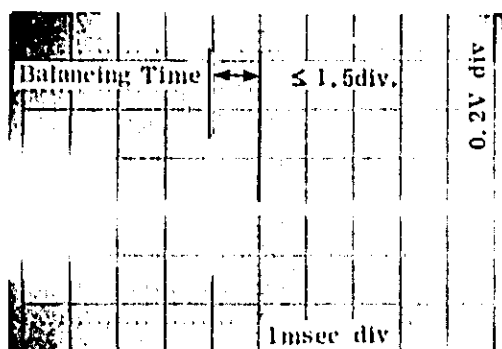

Figure 5-6. Balancing Time Adjustment.
- e. Observe waveform at A11TP4. Adjust A11C31 and A8C22 for minimum balancing time less than 1.5msec (see Figure 5-6).
- f. Connect a \*1000 $\mu$ H inductance in series with \*\*470 $\mu$ H and another 470 $\mu$ H to TEST FIXTURE (If ET-7902 is available, set to position 6). Observe waveform at A11TP4. Adjust A11C31 so minimum balancing time is less than 1.5msec (see Figure 5-6).
- g. Connect a \*1040 $\mu$ H inductance in series with a \*\*10.6k $\Omega$  resistor TEST FIXTURE (If ET-7902 is available, set to position 7). Adjust A8C22 so minimum balancing time is less than 1.5msec (see Figure 5-6).